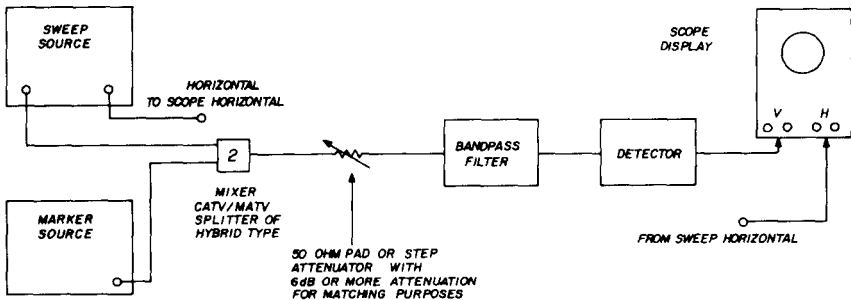

fig. 5. Test setup for aligning the etched-inductance bandpass filters.
**Sweep generator/markers.** Connect a broadband sweep generator to the input of the filter through a mixer device as shown in fig. 5. The mixer combines the sweep and marker signals into one composite signal that drives the filter (the mixer is not required for sweep generators which use an internal marker oscillator). The output of the filter is fed to a
In the photograph you can see that the input inductance to the fet (L7 in **fig. 5**) is isolated from the output inductance
(L8 in **fig. 5**) by a piece of double-sided copper-clad printed-circuit board. In addition to serving as a shield, this section of board is a mounting plate for the E-300 fet. The shield is soldered to the 1/8-inch strip of copper between L7 and L8; the E-300 gate lead is soldered to the L8 side of the shield with the transistor mounted inside a 3/8-inch mounting hole (see **fig. 9**).